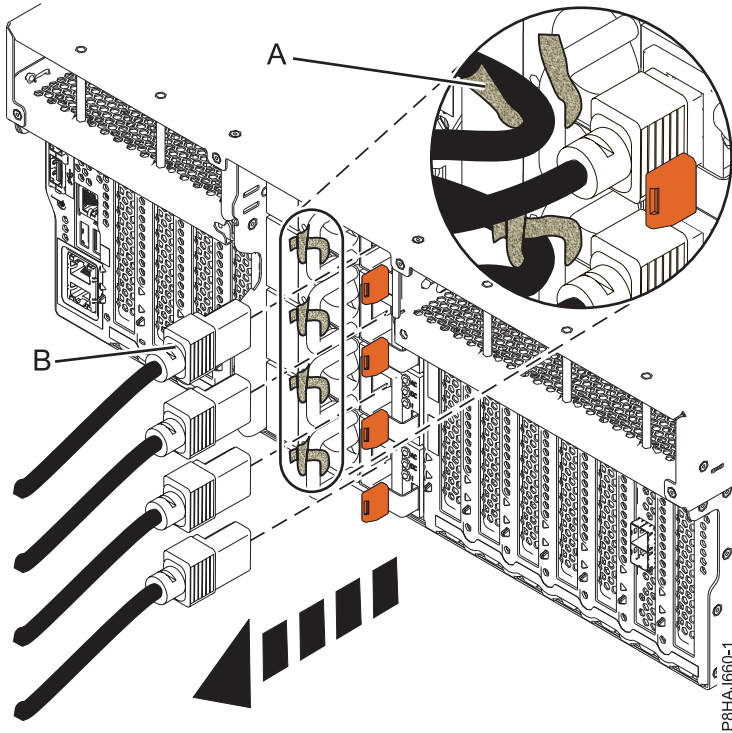
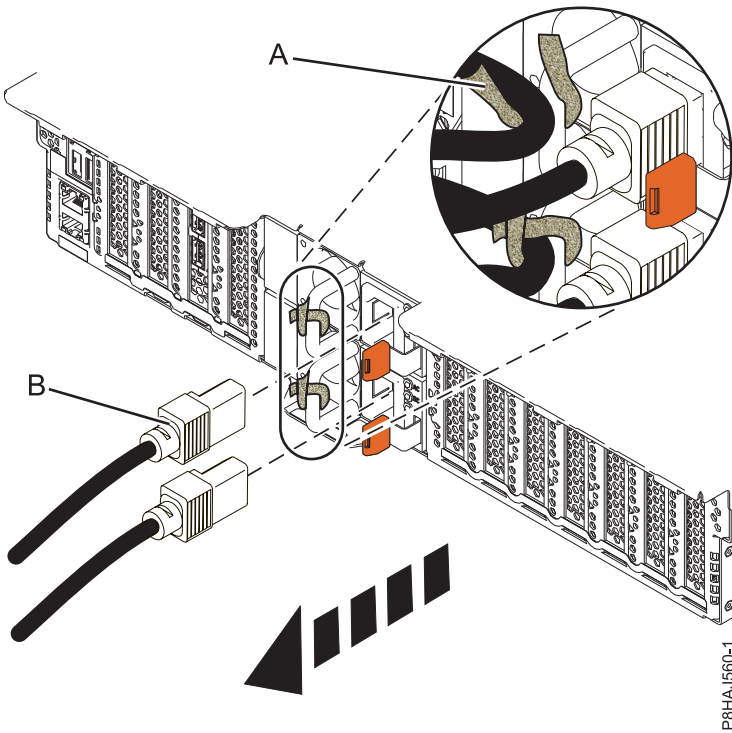
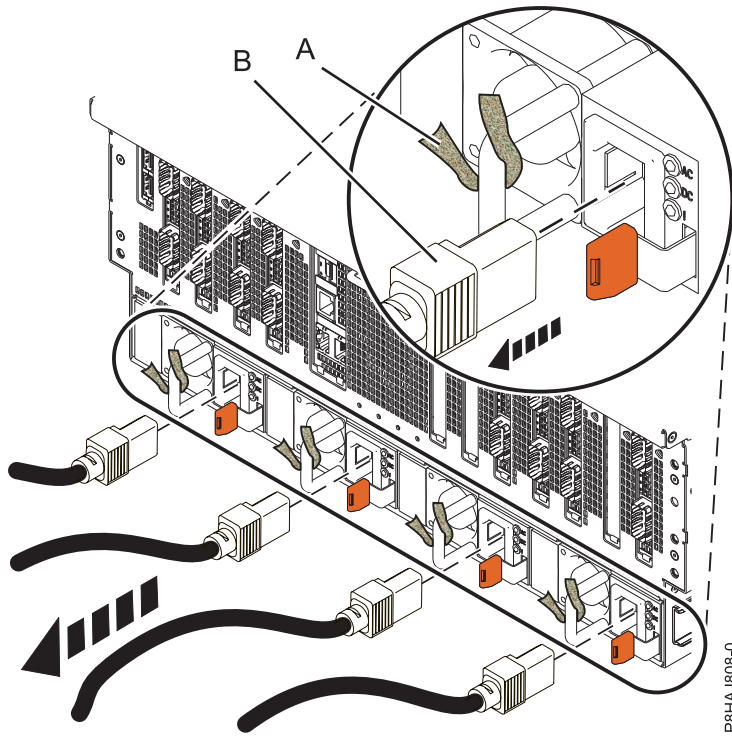

Figure 20. Removing the power cords from an 8247-42L, 8286-41A, or 8286-42A system
Figure 21. Removing the power cords from an 5148-21L, 5148-22L, 8247-21L, 8247-22L, 8284-21A, or 8284-22A system
Figure 22. Removing the power cords from an 8408-44E or 8408-E8E system
3. Disconnect the power cords (**B**) from the system unit. See Figure 20 on page 38, Figure 21 on page 38, or Figure 22 on page 39 or depending on the type of your system.